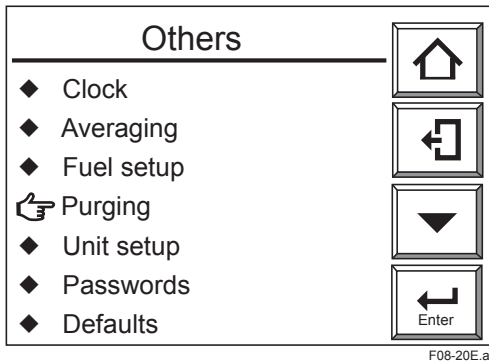

Figure 8.20 Other Settings
- (1) Press the [Setup] key in the Basic panel display to display the Execution/Setup display.
- (2) Select the “Commissioning” in the Execution/Setup display. The Commissioning display then appears.
- (3) Select the “Others” in that display and the Others display then appears, as shown in Figure 8.20.